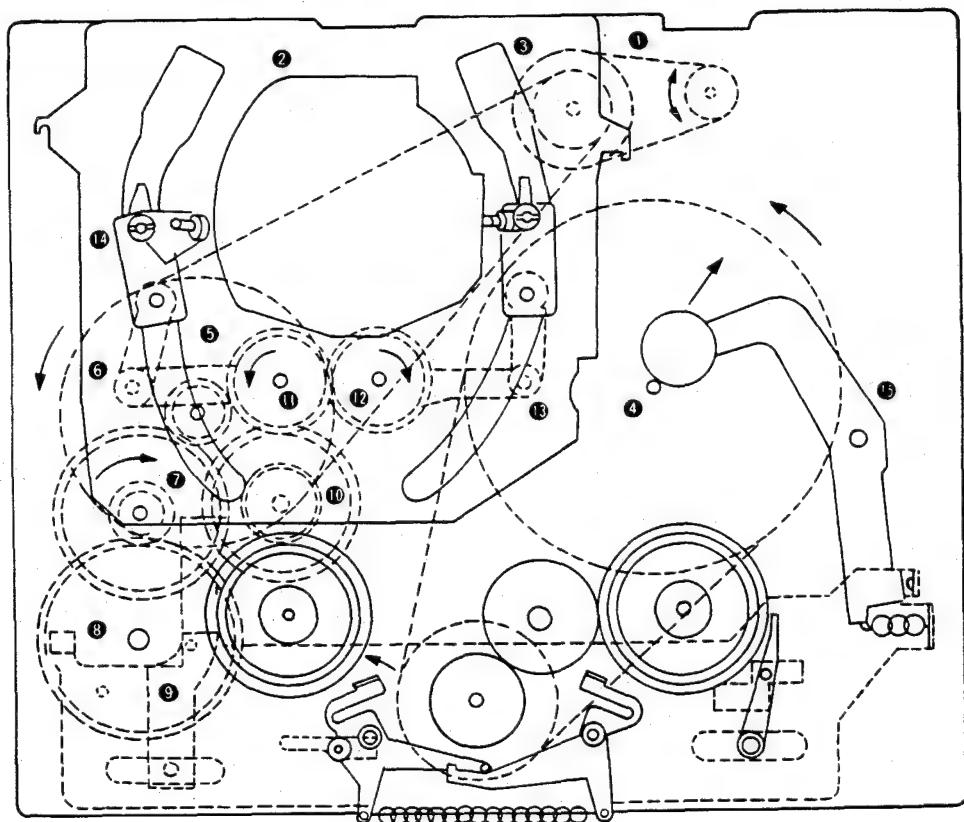

Fig. 51
When the stop button is pressed in the play mode the capstan M/T is stopped and the LC M/T starts to rotate ccw. The rotation of LC M/T is transmitted to the cam gear, which is rotated ccw as shown in Fig. 51. As the cam gear rotates ccw, the rack gear is rotated in the direction indicated by the arrow as shown in Fig. 51 according to the decrease of the radius of cam surface. And the (L) loading gear and (R) loading gear start to be rotated ccw and cw respectively by the gear B which is rotated by the rack gear. While (L), (R) loading gear are rotated, the capstan motor rotates the S reel table ccw for rewinding tape.
- The pinch lever is moved in the direction indicated by the arrow as shown in Fig. 51.
- The supply and take up reel brakes are moved in the direction indicated by the arrow as shown in Fig. 51 and actuated on the S and T-U reel table.